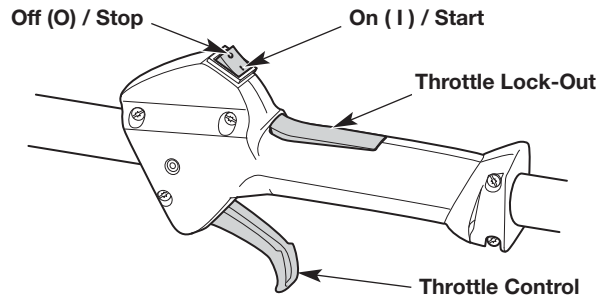

Fig. 6
NOTE: There is no need to turn the unit on. The On/Off switch is in the ON (I) position at all times (Fig. 6).
6. Press the throttle lock-out and squeeze the throttle control (Fig. 6). Pull the starter rope with a controlled and steady motion **5 times** (Fig. 8).
2. Press and hold the On/Off switch in the OFF (O) position until the engine comes to a complete stop (Fig. 6).
7. Press the throttle lock-out and squeeze the throttle control (Fig. 6). Run the electric start accessory for 2 seconds.